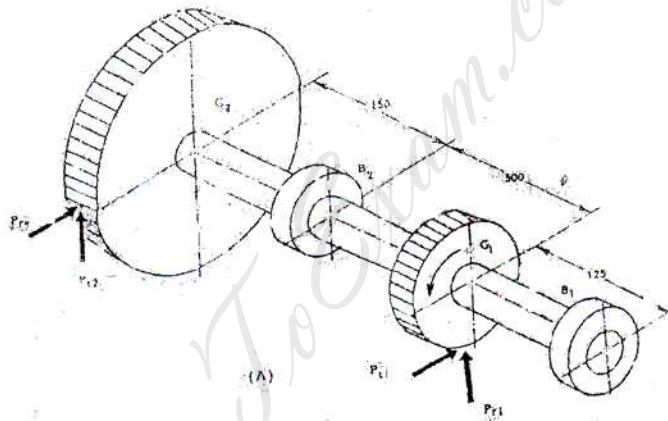

Figure 7
12. A shaft transmitting 50 kW at 125 rpm from G1 to gear G2 and mounted on two single row deep groove ball bearings B₁ and B₂ as shown in Figure 7. The gear tooth forces are